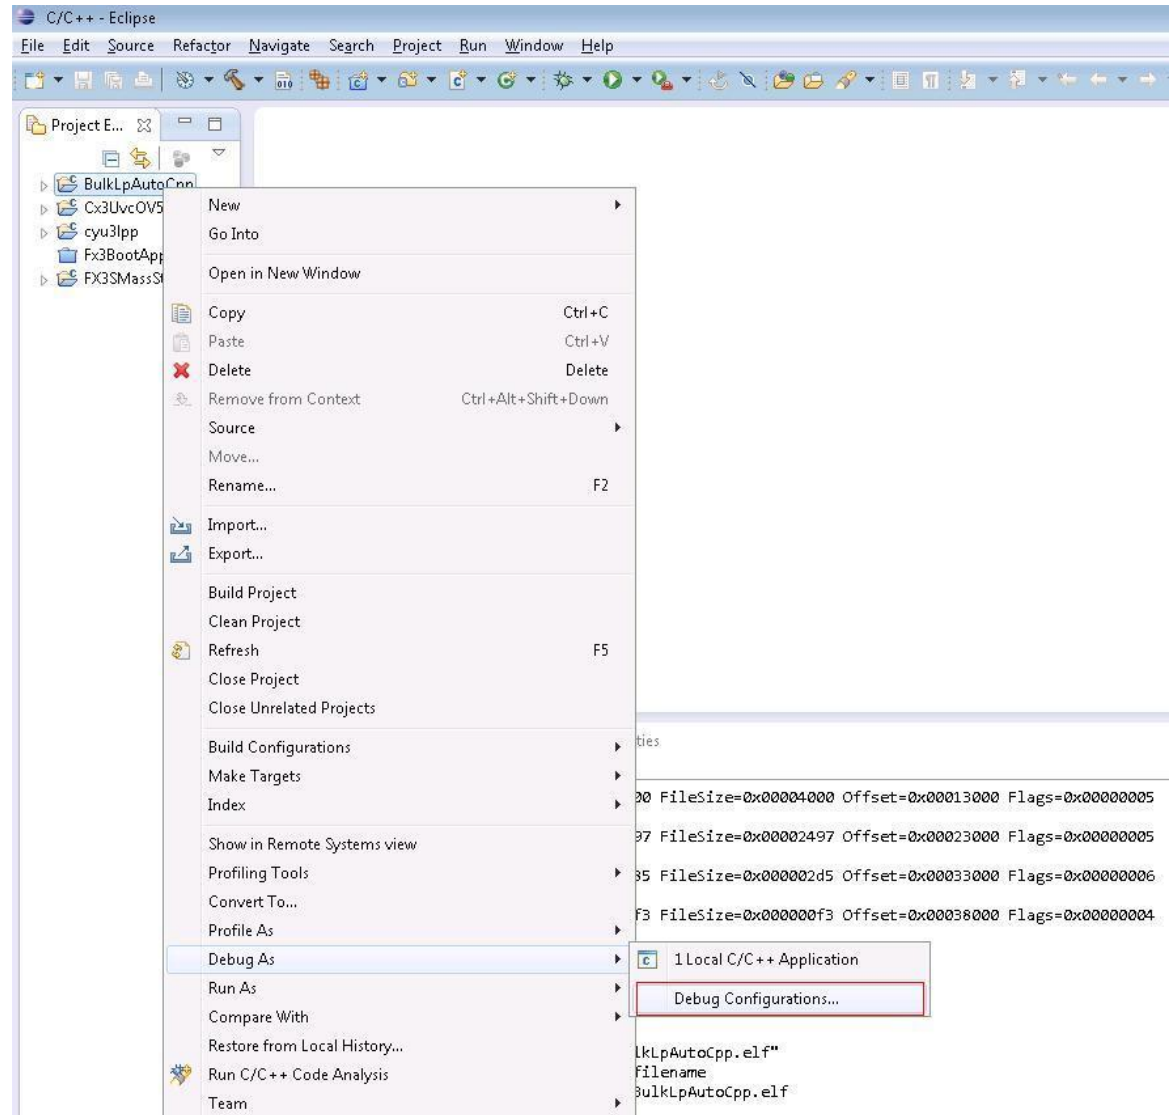

Figure 3-1: Creating debug configuration: Start
1. Select and right-click on the project to be debugged, and select the “Debug As -> Debug Configurations...” option. See Figure 3-1.